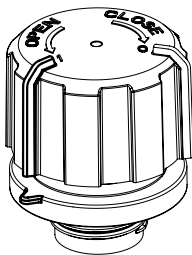

Fig.3
- By turning the cover clockwise of a few degrees the breather position is reached: the index on the cover marked with 1 is in line with the index of the threaded connector (fig. 3).